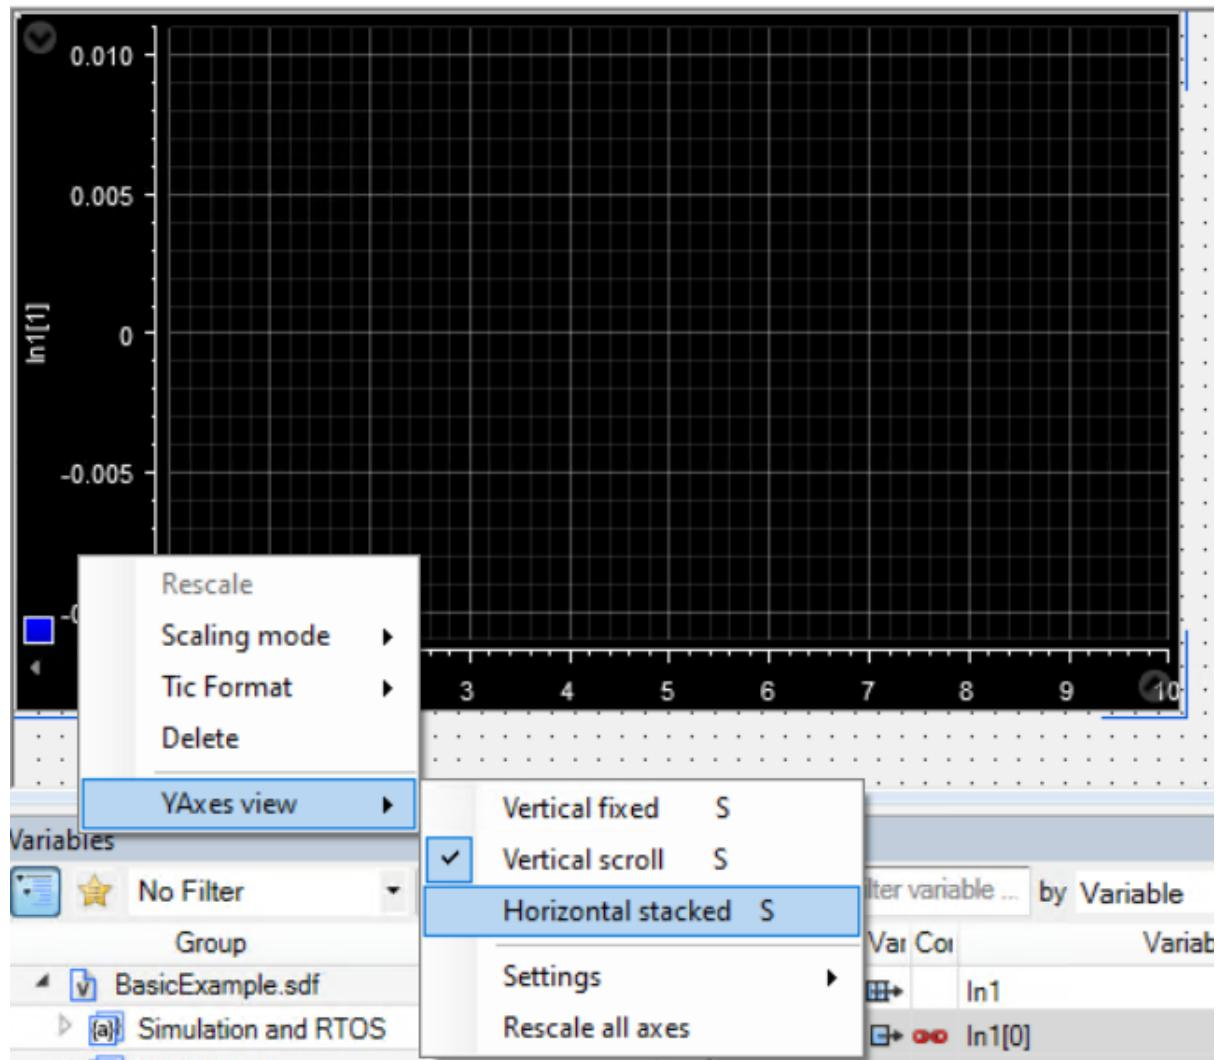

Figure 13.55: Select to show all the signals on the same plot with their own Y-axes
- 8) To see all the plots concurrently right-click on the left of the Y-axis and select `YAxes-view> Horizontal stacked` (see Figure 13.55).